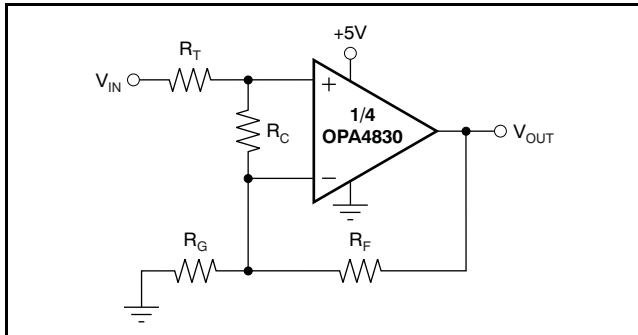

Figure 78. Compensated Noninverting Amplifier
Figure 78 shows a noninverting amplifier that reduces peaking at low gains. The resistor  $R_C$  compensates the OPA4830 to have higher noise gain (NG), which reduces the ac response peaking (typically 5dB at  $G = +1V/V$  without  $R_C$ ) without changing the dc gain.  $V_{IN}$  needs to be a low-impedance source, such as an op amp. The resistor values are low in order to reduce noise. Using both  $R_T$  and  $R_F$  helps minimize the impact of parasitic impedances.
Frequency response in a gain of  $+2V/V$  may be modified to achieve exceptional flatness simply by increasing the noise gain to  $3V/V$ . One way to do this, without affecting the  $+2V/V$  signal gain, is to add a  $2.55k\Omega$  resistor across the two inputs (see Figure 78). A similar technique may be used to reduce peaking in unity-gain (voltage follower) applications. For example, by using a  $750\Omega$  feedback resistor along with a  $750\Omega$  resistor across the two op amp inputs, the voltage follower response is similar to the gain of  $+2V/V$  response of Figure 73. Further reducing the value of the resistor across the op amp inputs further dampens the frequency response because of increased noise gain. The OPA4830 exhibits minimal bandwidth reduction going to single-supply ( $+5V$ ) operation as compared with  $\pm 5V$ . This minimal reduction is because the internal bias control circuitry retains nearly constant quiescent current as the total supply voltage between the supply pins changes.
The criterion for setting this  $R_S$  resistor is a maximum bandwidth, flat frequency response at the load. For a gain of  $+2$ , the frequency response at the output pin is already slightly peaked without the capacitive load, requiring relatively high values of  $R_S$  to flatten the response at the load. Increasing the noise gain also reduces the peaking (see Figure 78).